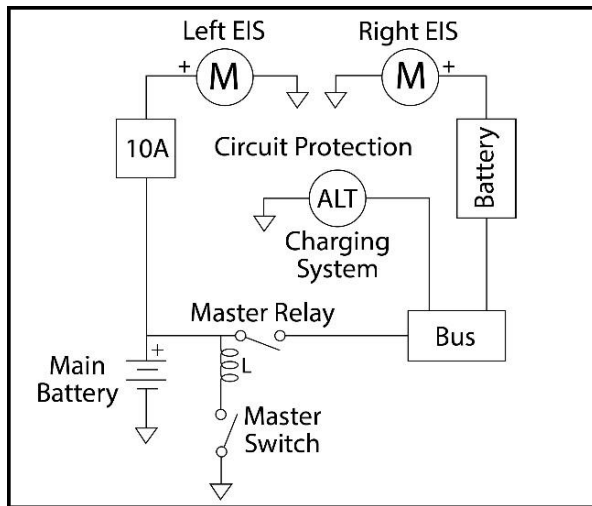
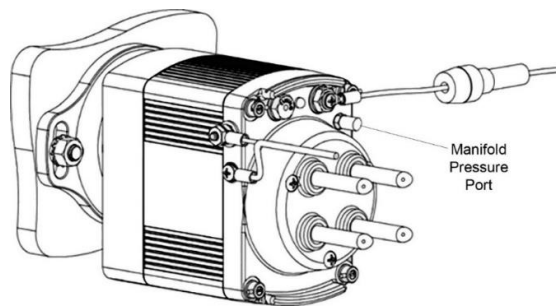

Figure 8: Normal EIS Installation
Figure 10: Typical 66K4A Installation and Terminal Attachment
8. Connect the ring terminals per the circuit diagram in Figures 8 or 9 as illustrated in Figure 10.
- Ensure the manifold pressure port (Figure 10) is not obstructed and open to atmospheric pressure.